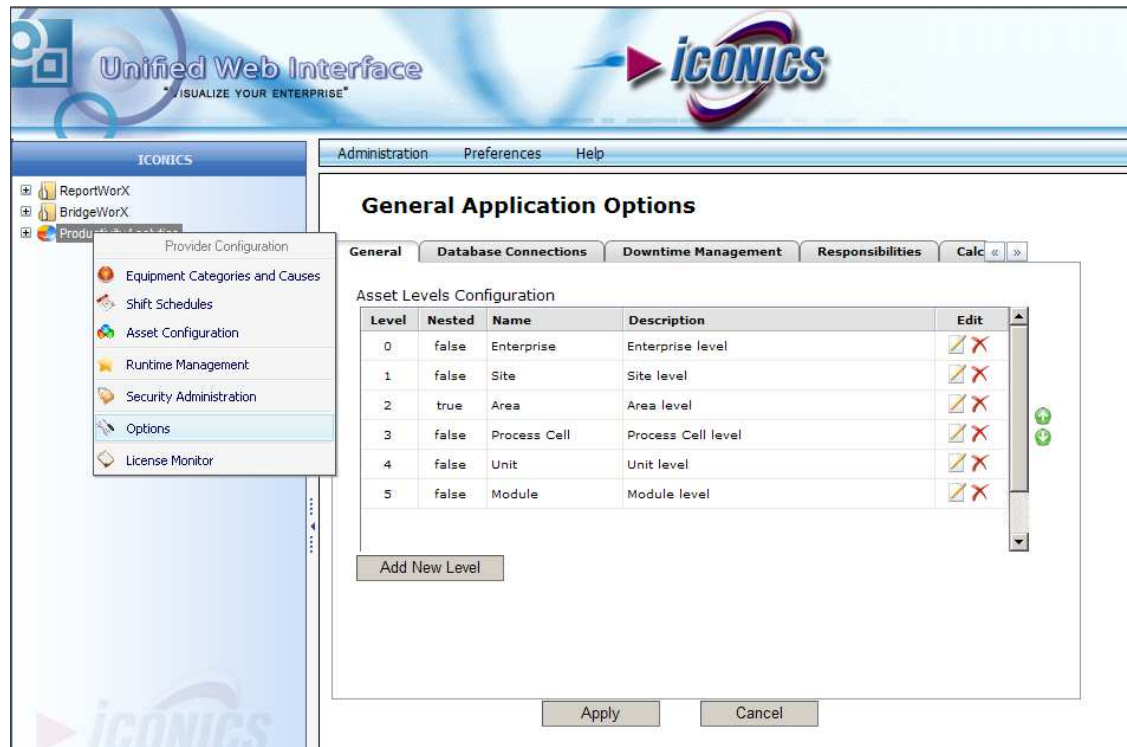

Figure L2.13 - Accessing Options Menu from the Unified Web Interface
3. Right-click on the **ProductivityAnalytics** provider and select **Options**, as shown in Figure L2.13. If the only item you see in the right-click menu is License Monitor, then you should go back to the Productivity Analytics Service Configurator and verify that your currently logged-in user has Administrative privileges.